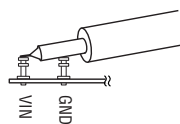
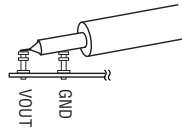

Figure 3. Proper Ripple Measurement Technique for Input
Figure 4. Proper Ripple Measurement Technique for Output
To observe the voltage ripple at VIN or VOUT refer to Figure 3 and Figure 4 for proper equipment setup and follow the procedure outlined below.
- Measure the input ripple by touching the probe between VIN and GND as shown in Figure 3.
- Measure the output ripple by touching the probe between VOUT and GND as shown in Figure 4.